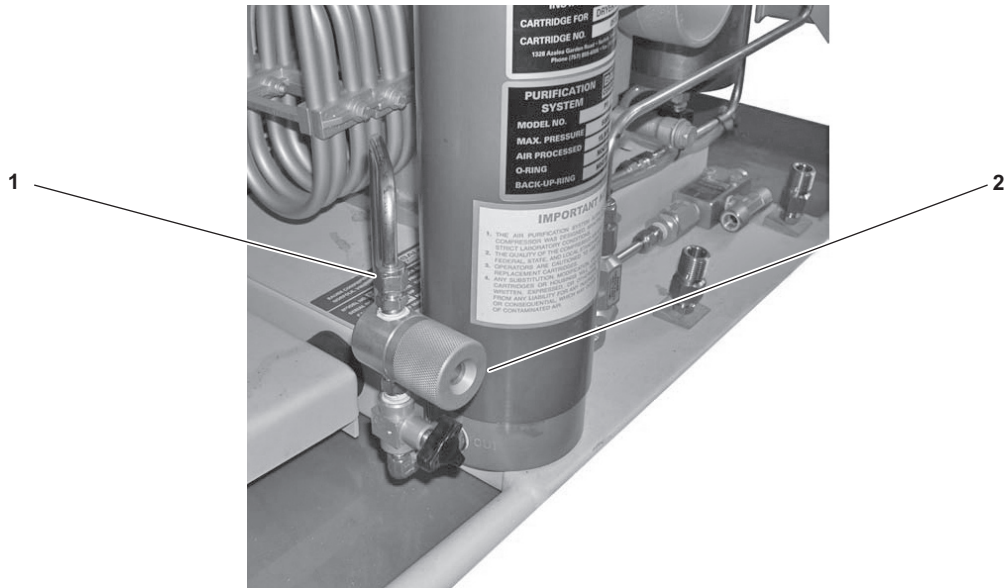
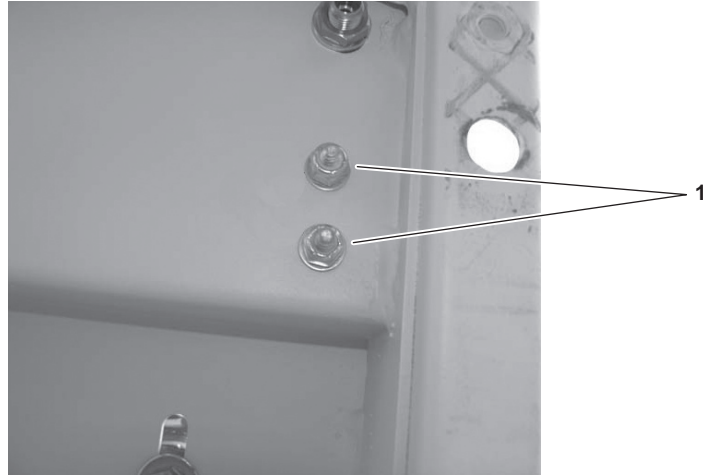
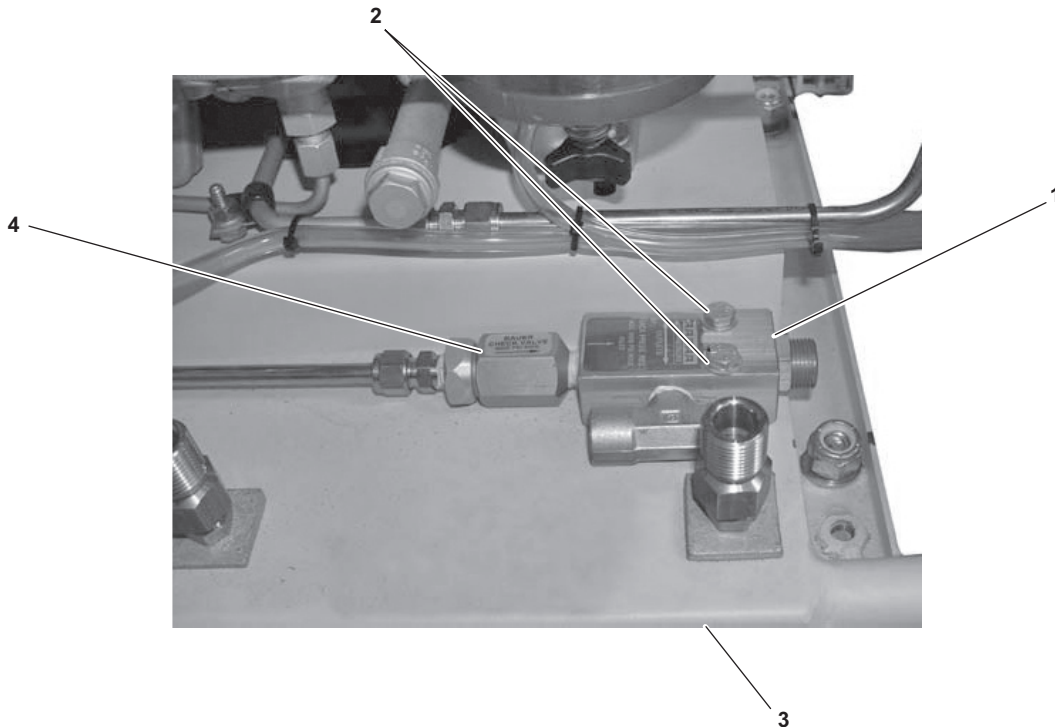

Figure 6-9. Flare On Top of CO/H₂O Indicator
Figure 6-11. Two Nuts Underneath E-BAC/SS Frame Securing Pressure Maintaining Valve
Figure 6-12. Bolts Securing Pressure Maintaining Valve
- (2) Using a 11/16 inch wrench, loosen (CCW) the flare (figure 6-9, item 1) on top of the connection to the CO/H₂O indicator (figure 6-9, item 2). This will allow the line going to the pressure maintaining valve to be moved as needed.
- (5) Use a 7/16 inch wrench to prevent the nuts (figure 6-11, item 1) that secure the pressure maintaining valve (figure 6-12, item 1) underneath the E-BAC/SS frame from turning.
- (6) Using a drive ratchet and 7/16 inch socket, loosen (CCW) and remove the two bolts (figure 6-12, item 2) connecting the pressure maintaining valve (figure 6-12, item 1) to the E-BAC/SS frame (figure 6-12, item 3). Ensure that the nuts (figure 6-11, item 1) and washers underneath the E-BAC/SS frame are set aside.
- (7) Remove the pressure maintaining valve (figure 6-12, item 1) with the check valve (figure 6-12, item 4) attached up and off of the E-BAC/SS (figure 6-12, item 3) frame.
- (1) Remove the pressure maintaining valve (figure 6-12, item 1) IAW procedures in paragraph 6.4.7.b.
- (2) Place the pressure maintaining valve (figure 6-12, item 1) in a vise with the jaws wrapped with rags and close the vise until pressure maintaining valve is secure.
- (3) Using a 1 inch wrench on the check valve (figure 6-12, item 4), turn CCW to remove.
- (1) Thoroughly clean the male and the female threads of the check valve (figure 6-12, item 4), pressure maintaining valve (figure 6-12, item 1), nipple fitting, and tee, removing all previously applied anti-seize (Teflon[®]) tape. Do not allow anti-seize (Teflon[®]) tape particles to enter the valves.
- (2) Wrap anti-seize (Teflon[®]) tape around the male threads of all connections in a spiral CCW direction, starting at the second or third thread. Encircle the threads three times.
- (3) Place the pressure maintaining valve (figure 6-12, item 1) in a vise with the jaws wrapped in rags and close the vise until the pressure maintaining valve is secure.
- (4) Use 1 inch wrench on the check valve (figure 6-12, item 4) to install it on the pressure maintaining valve (figure 6-12, item 1). Turn CW until snug.
- (1) Ensure that the check valve (figure 6-12, item 4) is installed on the pressure maintaining valve (figure 6-12, item 1). If not, follow procedures in paragraph 6.4.7.d to install the check valve.
- (2) Align the pressure maintaining valve (figure 6-12, item 1) over the holes in the E-BAC/SS frame (figure 6-12, item 3). Place the two bolts (figure 6-12, item 2) with washers through the holes in the pressure maintaining valve. Hold it in place with a 7/16 inch wrench.
- (3) From underneath the E-BAC/SS frame (figure 6-12, item 3), place the washers and two nuts (figure 6-11, item 1) on the protruding bolts. Secure the nuts and washers to the bolts (figure 6-12, item 2) with a drive ratchet and 7/16 inch socket, turning CW until snug.
- (4) Use a 5/8 inch wrench to connect the nipple fitting to the check valve fitting, turning CW until aligned and snug.
- (5) Install the line coming from CO/H₂O indicator (figure 6-9, item 2) and tighten both flare fittings on each end, turning CW with 11/16 inch wrench until snug.
- (6) Install the fill hose assemblies IAW procedures in paragraph 6.4.5.c.